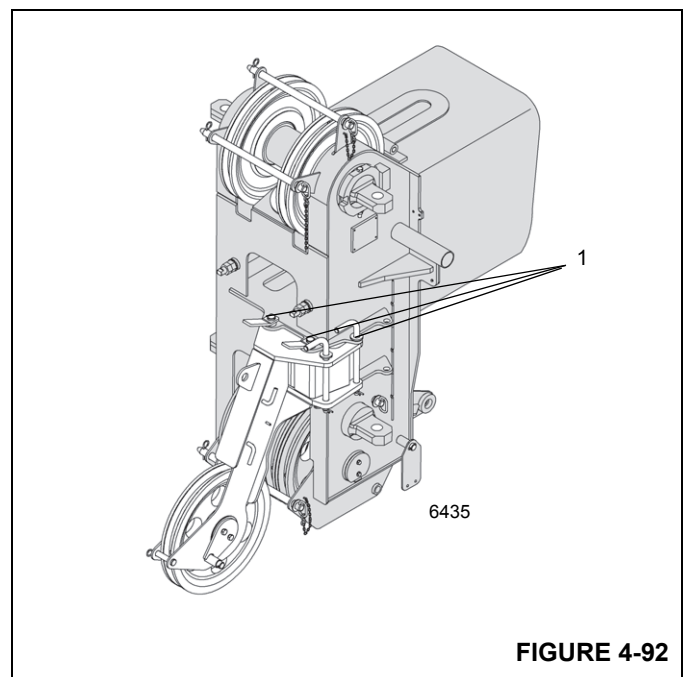

FIGURE 4-92
In the working position, the auxiliary single-sheave boom nose is positioned in front of the main boom head and is fastened with three pins (1) (Figure 4-92).